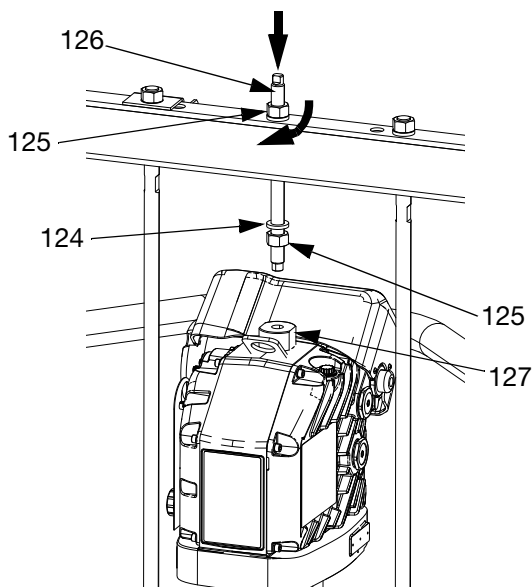

FIG. 53
1. Using a capable hoist, insert tie rods into the Displacement Pump (AC) and secure the Driver (AB) to the Pump (AC).
- b. Install threaded rod (126) through center hole in the crossbar. Install lock washers (124) and nuts (125) onto threaded rod (126), both above and below crossbar. Use wrench to hold lift ring adapter (127) and tighten threaded rod (106) into lift ring adapter (127) using another wrench. See FIG. 53.
- c. Tighten nut (125) below crossbar to 25 ft-lb (34 N•m) maximum.
- d. Tighten nut (125) above crossbar to lock Driver (AB) in place.